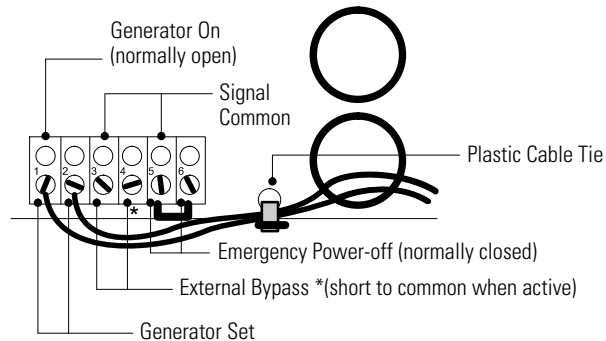

Figure 31. Input Control Signal Wiring
8. If any external hardwired control signals are required (EPO or Generator On), unscrew and remove the top rear cover of the cabinet and locate the terminal block (see Figure 31).